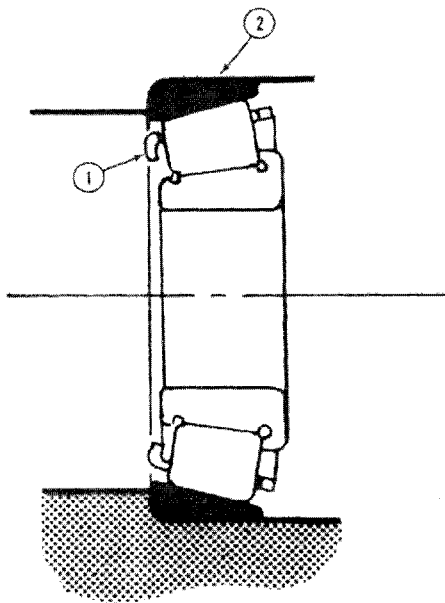

Figure 8
4. Check the front wheel hub bearings, Figure 8, for wear or damage. Replace bearings exhibiting uneven rotation when rotated by hand.